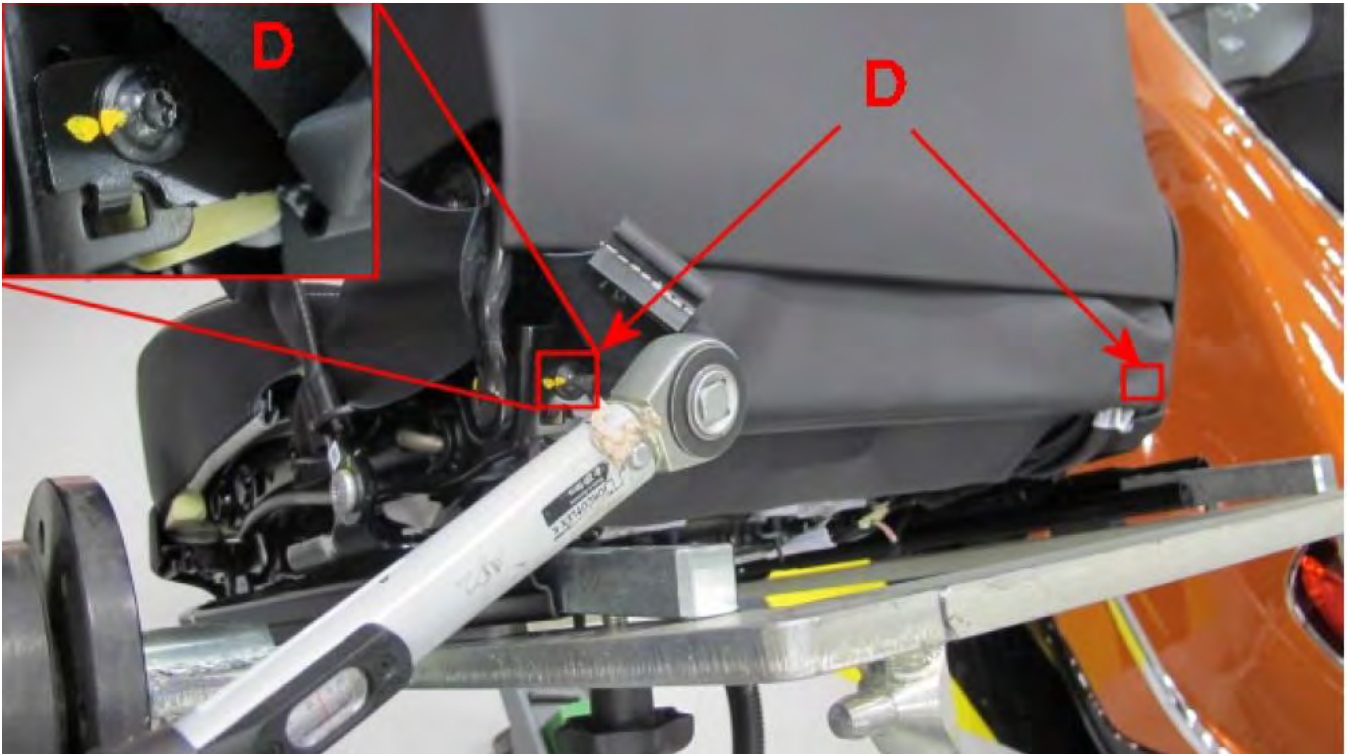

Figure 51
1. Rear seat ISO bar fastener part number N90737107 torque 8Nm (see Figure 51)
9. Using an in date calibrated torque wrench apply 8 Nm to fasteners (D), two per seat, (part number N90737107) (see Figure 51 and 54)